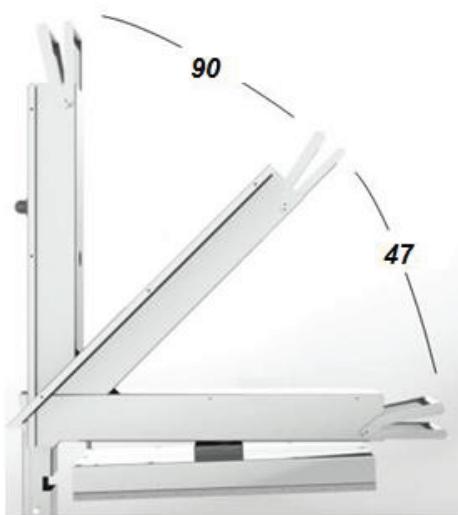

Fig. 19
21. Check range of motion as shown in Fig. 19. The assembly should lock at the 90° and 47° positions. Assembly should release from locked positions when handles are squeezed together. Do not force unit down, it should lower under its own weight when the handles are squeezed. The cooking surface of the griddle top head assembly should just lightly touch the griddle surface of the bottom plate when the assembly is in the down position.